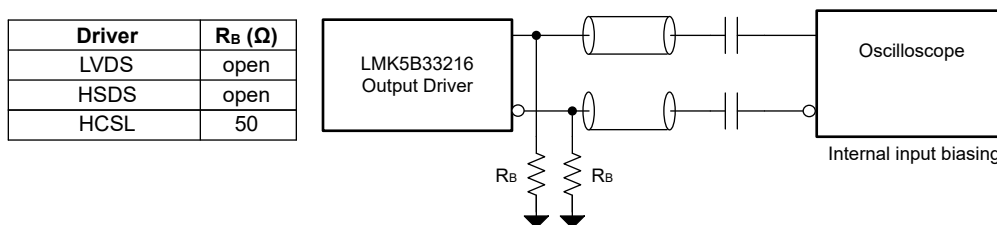

Figure 3-10. Output Termination Recommendations
1. Ensure all required outputs have proper termination components installed to match the desired output types. Figure 3-10 shows the recommended output terminations for each output format.